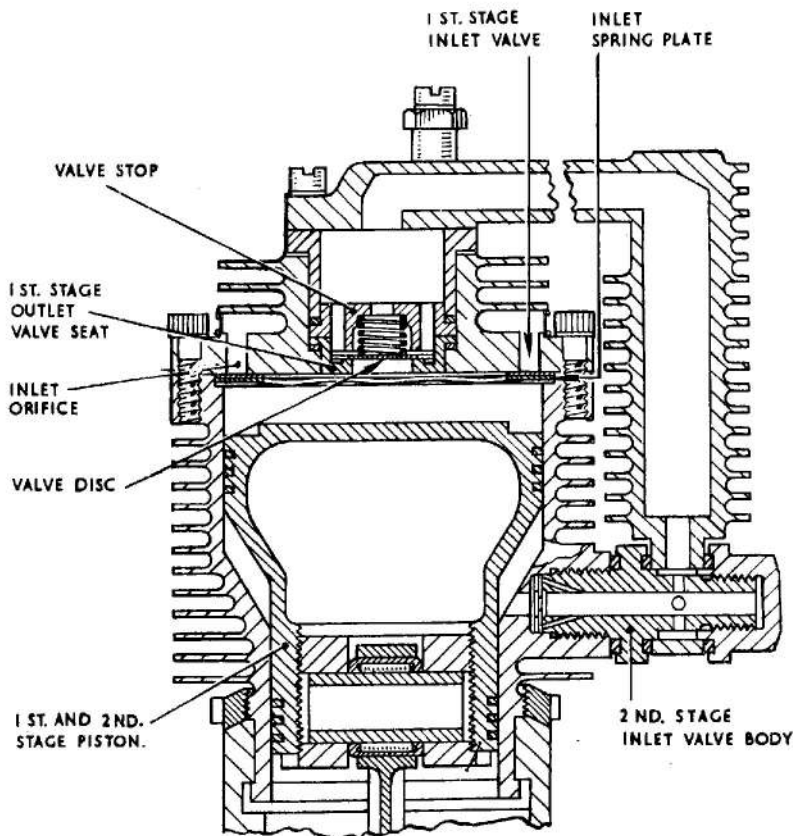

Fig. 3. 1st and 2nd stage system
18. *1st stage valves and cylinder head (fig. 3).*—(1) Remove the screws and cowl post and cap nuts securing the 1st stage intercooler to the cylinder head and cylinder. Remove the intercooler.